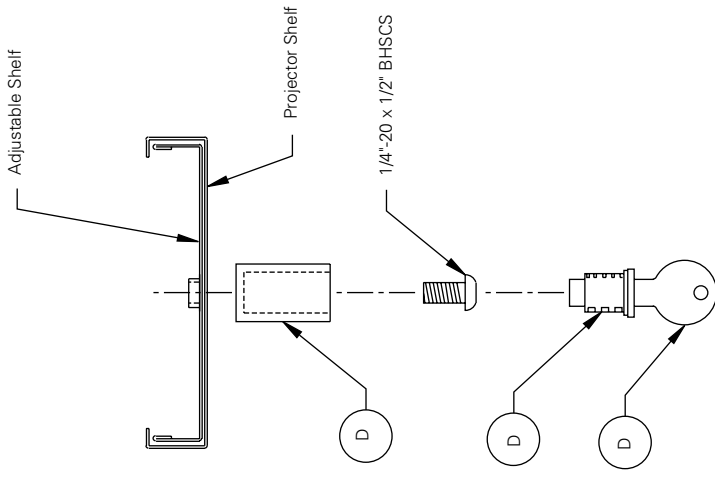

Figure 2
3. If the optional Projector Shelf lock is needed, use the previously mentioned 1/4"-20 screw with the Equipment Lock (D) to re-assemble the Adjustable Shelf to the Projector Shelf Assembly. See Figure 2.